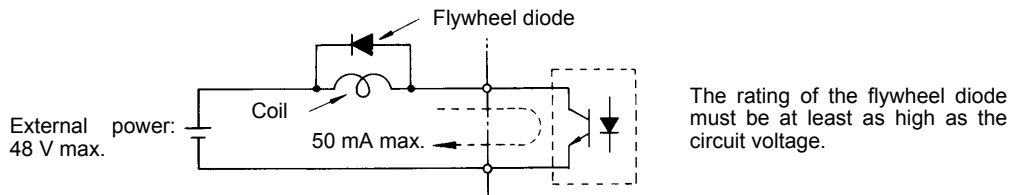

Fig 2.14 Flywheel Diode Connection
- \* 2. When driving a reactive load, such as a relay coil, always insert a flywheel diode as shown in Fig 2.14.